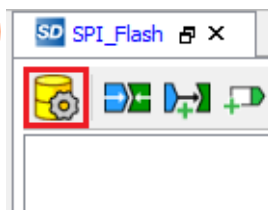

Figure 12 • Generate Component
8. Generate the SPI_Flash Smart Design by clicking **SmartDesign > Generate Component** or by clicking **Generate Component** on the SmartDesign toolbar as shown in Figure 12